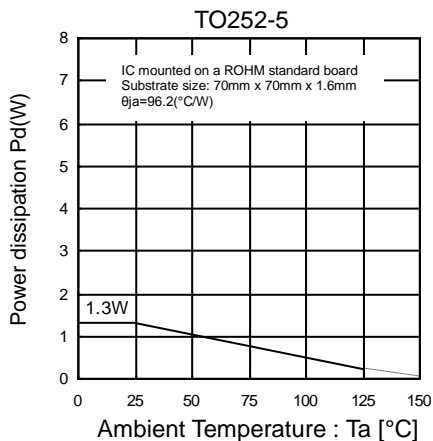
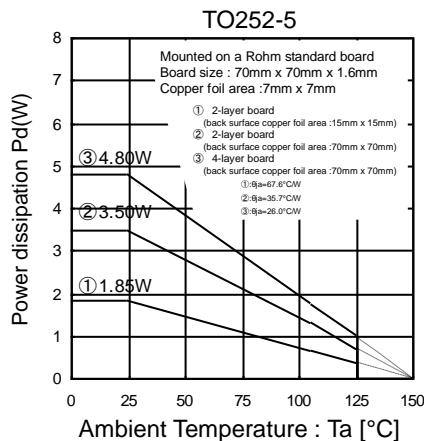
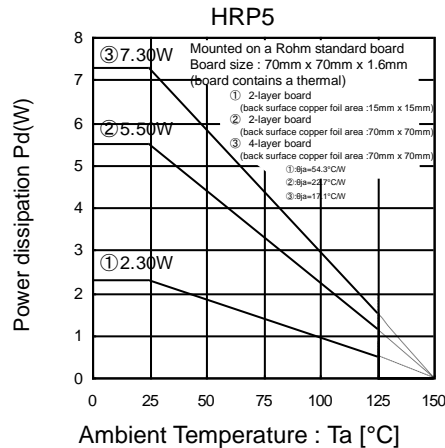

Figure 15
Figure 16
Figure 18
Refer to the heat attenuation characteristics illustrated in Figure 15 to Figure 18 when using the IC in an environment where T_a exceeds 25°C. The operating temperature of the IC greatly influences the characteristics of the IC. If the temperature exceeds the maximum junction temperature T_{jmax} , the elements of the IC may be deteriorated or damaged. It is necessary to give sufficient consideration to the heat of the IC in view of two points, i.e., the protection of the IC from instantaneous damage and the maintenance of the reliability of the IC in long-time operation.
In order to protect the IC from thermal destruction, it is necessary to operate the IC below the maximum junction temperature (T_{jmax}). Figure 15 and Figure 16 illustrate the power dissipation/heat attenuation characteristics for the TO252 package. Operate the IC within the power dissipation P_d . The following method is used to calculate the power consumption P_c (W).
$$I_{OUT} \leq \frac{2.496 - 12 \times I_{CC}}{12 - 5} \quad \left(\begin{array}{l} \text{Figure 16 } \textcircled{3} : \theta_{ja} = 26.0^\circ C/W \text{ to } -38.4 mAW/^\circ C \\ 25^\circ C = 4.80W \text{ to } 85^\circ C = 2.496W \end{array} \right)$$